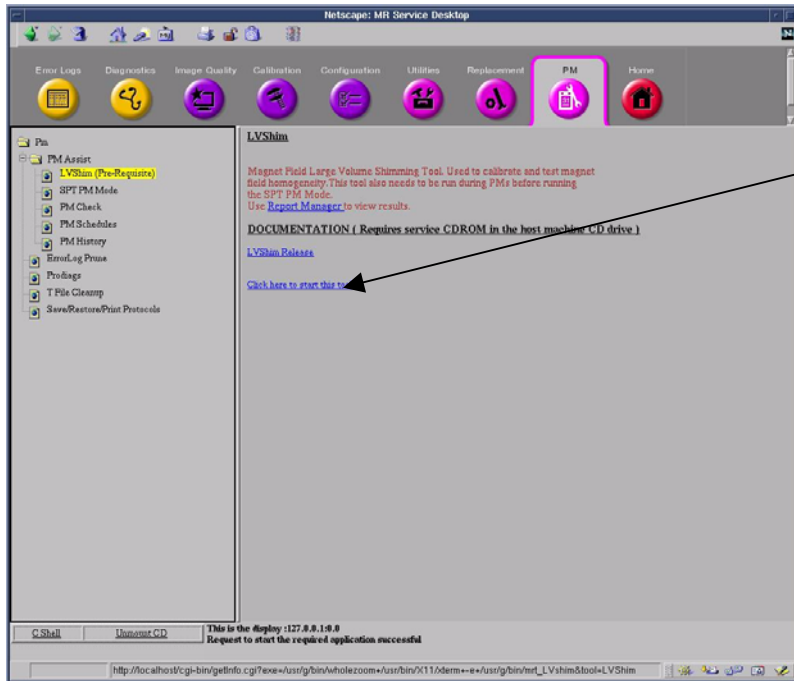
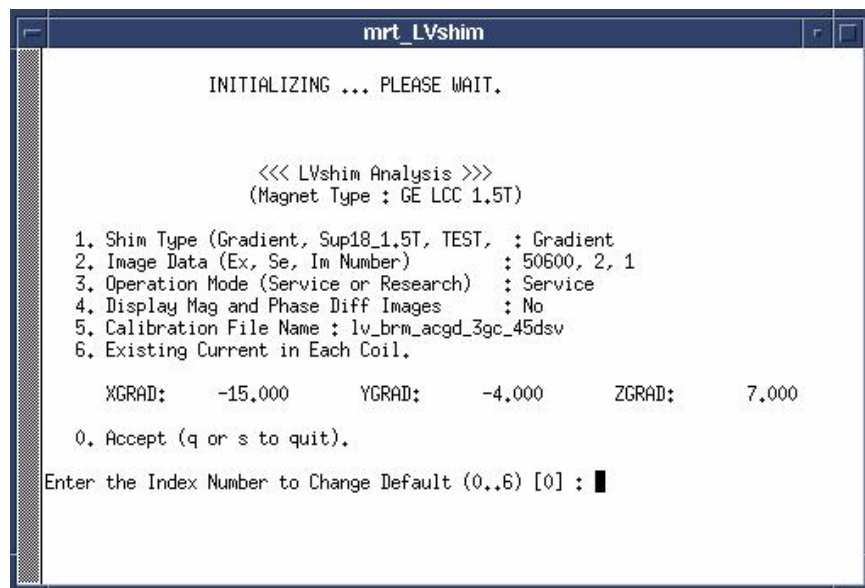

Figure 4
Figure 5
1. Click on LVShim in the expanded PM folder. **Figure 4 & 4a**. The Right side of the screen will provide more details about LVShim and a link to start the LVShim PM tool.
2. Click on the Link “Click Here To Start The LV Shim Tool” **Figure 4** to start the tool and open the LVShim tool **Figure 5**.